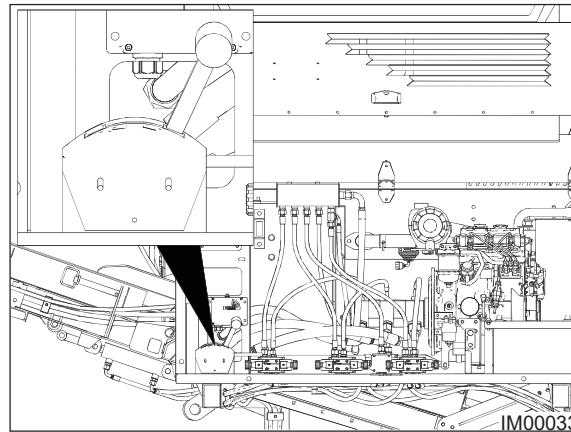

Fig: 8.2 - Throttle Lever
5. Using the Manual Throttle Lever (Fig: 8.2), increase the engine speed to maximum (2800 RPM).